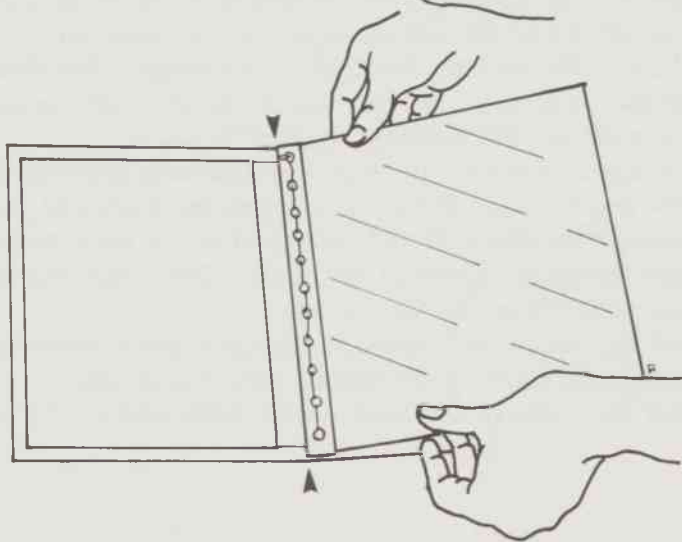

Figure 15.
- e. Position the binding strip in the middle of the crease (Figure 15).